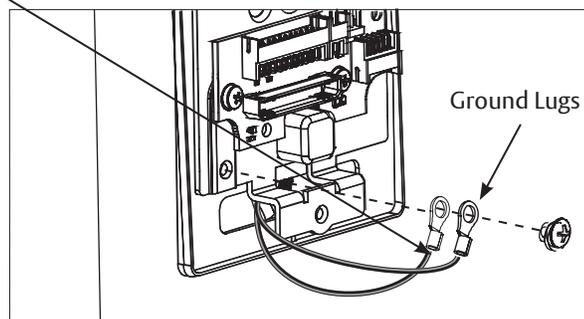

Figure 17c
5. Insert and partially tighten two (2) through-bolts prior to installation of connectors.
6. Secure ground lug(s) with #6-32 machine screw (Figure 17c).